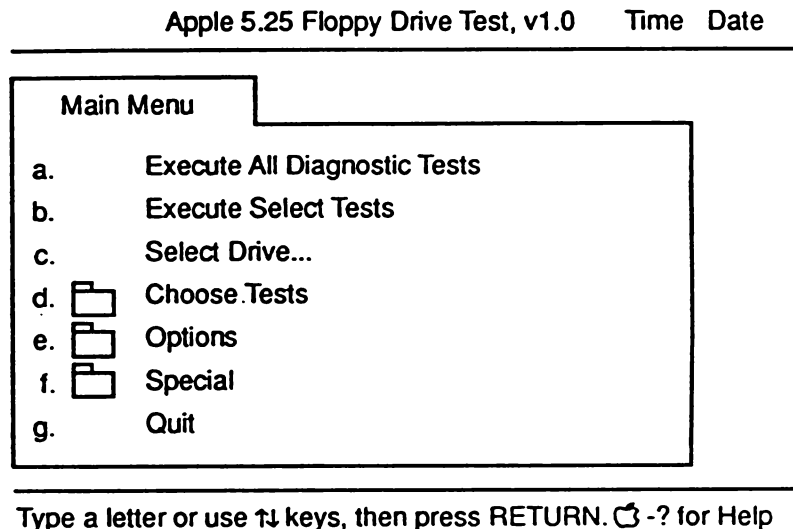

FIGURE 3
1. Place the program disk (*Apple 5.25 Floppy Drive Test*) in a known-good drive and load the diagnostic by turning on the computer. A screen similar to that shown in Figure 3 displays.